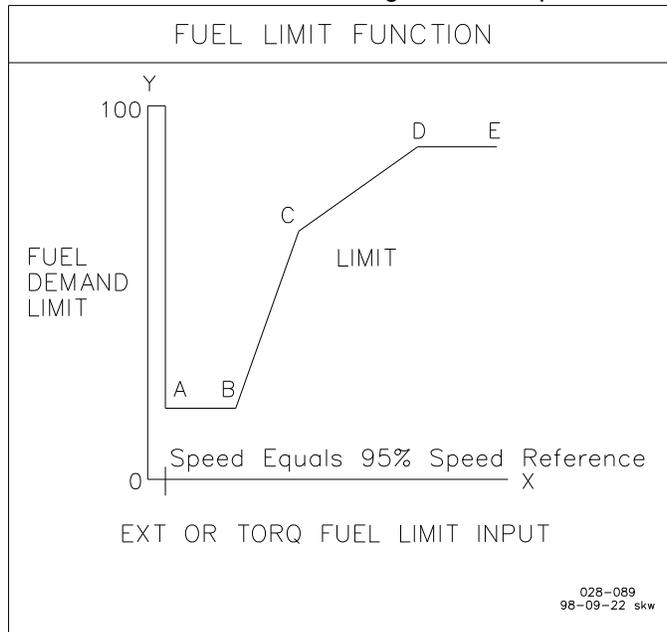

Figure 3-8. Torque Limit Curve
A five-point curve is constructed for rpm versus Fuel Demand (refer to Figure 3-8). The 'X' values are the Breakpoints, and the 'Y' values are the Fuel Limit at the Breakpoints. All values between the designated breakpoints are interpolated.
2. **TORQUE LMT BRKPT X** is the engine speed (rpm) that designates that particular breakpoint (x-axis input in Figure 3-8).
3. **FUEL LIMIT @ BRKPT X** is the percent fuel demand allowed when the engine speed is at that respective Breakpoint (y-axis output in Figure 3-8).
A five-point curve is constructed using the engine manufacturers recommended settings for EXT FUEL LMT versus Fuel Demand. Refer to Figure 3-8. The 'X' values are the Breakpoints and the 'Y' values are the Fuel Limit at the Breakpoints. All values between the designated breakpoints are interpolated.
- EXT LIMIT BRKPNT X** is the External Fuel Limiter value that designates that particular breakpoint (x-axis input in Figure 3-8).
- FUEL LIMIT @ BRKPNT X** is the percent fuel demand allowed when the External Fuel Limiter input is at that respective Breakpoint (y-axis output in Figure 3-8).